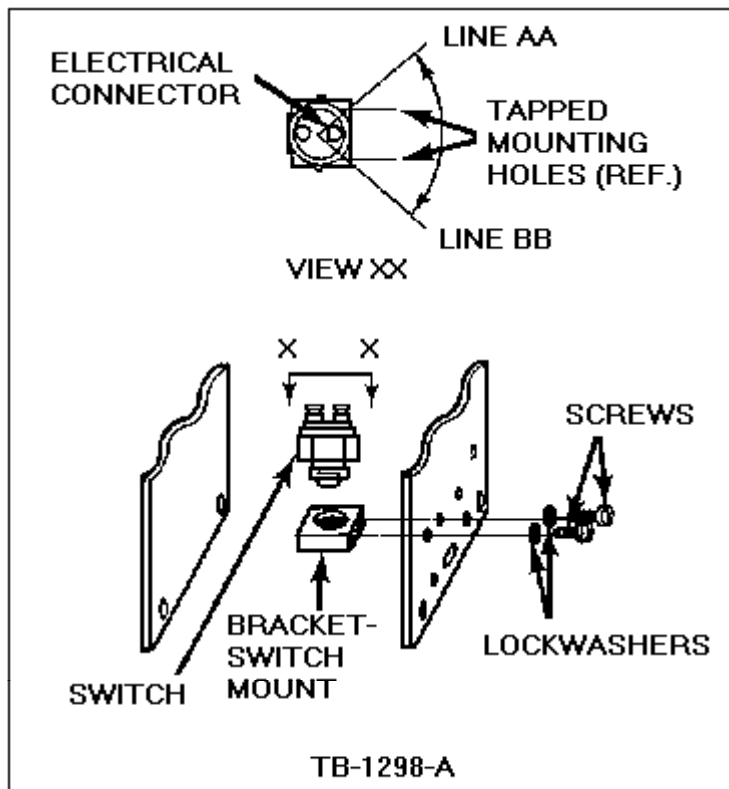

Figure 3 - Article 89-23-14
2. Remove the two mounting screws, Figure 3.
2. Further tighten bracket until first flat on the switch hex aligns with the flat part of the bracket containing the tapped mounting holes, Figure 3.
3. Make sure that one of the switch electrical connectors lies between line AA and BB as shown in Figure 3. It may be necessary to tighten the bracket to align with the second hex flat surface to obtain this position.